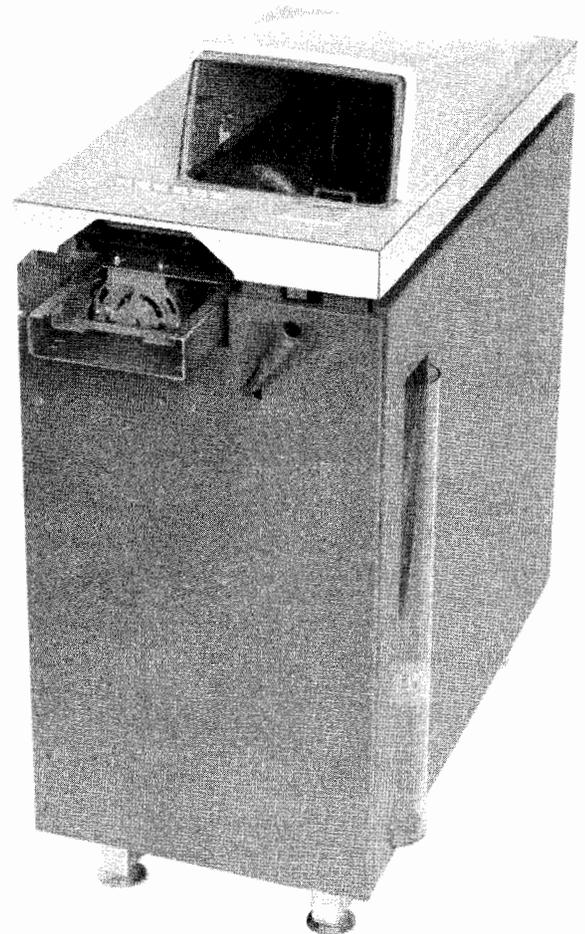

Figure 1 - Reperforator-Transmitter (RT) Cabinet
1.01 This section provides lubrication procedures for the 37 reperforator-transmitter (RT) cabinet (Figure 1). It is reissued to incorporate minor engineering changes and comments received on Issue 1. Since only a limited distribution was made on Issue 1, marginal arrows have been omitted.
1.03 References made to left or right and front or rear apply to the cabinet in its normal operating position as viewed by the operator facing the cabinet (Figure 1).